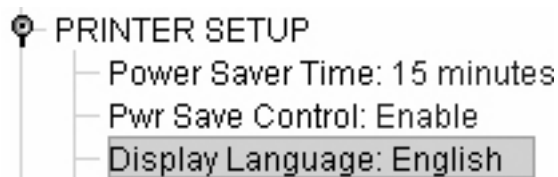

Figure 52. Selecting a Menu Item
3. Select the menu item you want to change. A selection box surrounds your choice. See Figure 52.